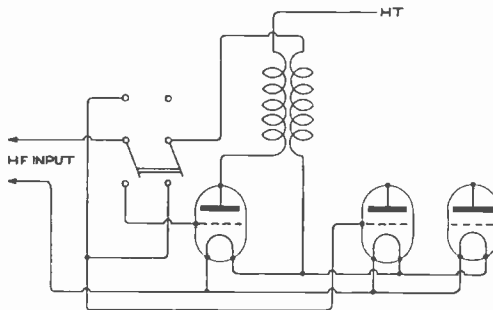

Fig. 1.
(1) It is better to go straight to the reaction coil from the valve. (2) The use of a grid condenser and leak gives a somewhat more sensitive detector, but is liable to be a little more tricky in operation. Transformer amplification is the better for short waves, but is not adaptable to big ranges of wavelength without interchangeable transformers. (3) See diagram Fig. 1. (4) With regard to 2 KW, see list of amateur transmitting stations published in our issue of July 1st. We have no knowledge of the other two stations mentioned.